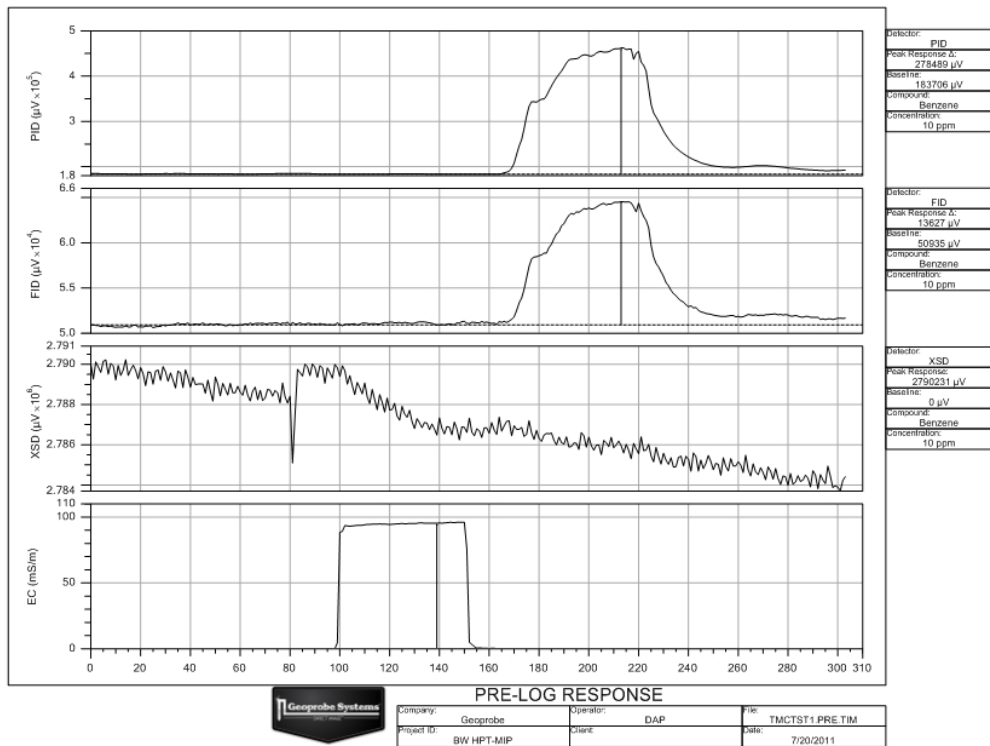

Figure 47: Pre-Log Response Test Print out
2. The response test printout will provide information to the right of the detector graphs showing which detector it represents, the baseline level and peak response level, compound used and its concentration (Figure 47).